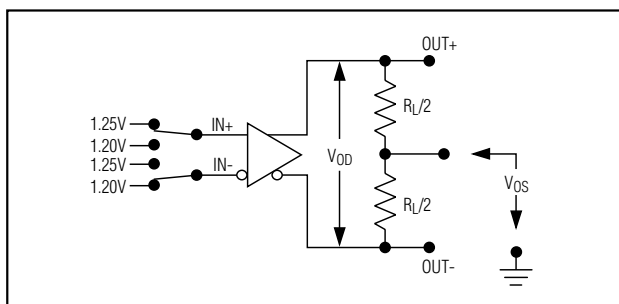

Figure 2. DC Load Test Circuit
**Table 1. Function Table for LVDS Fail-Safe Input (Figure 2)**